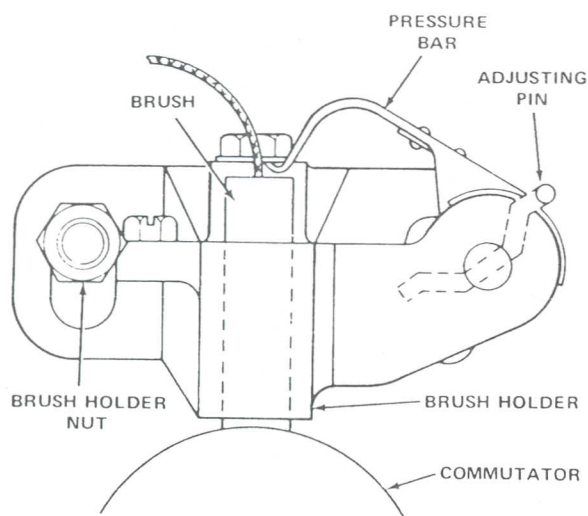

Figure 5-38. Adjustable Brush Holder, DC Motors
7. Older DC motors are equipped with an adjustable type brush holder (see Figure 5-38). The recommended brush pressure is 3-1/2 to 4 pounds of pressure per square inch of brush contact surface. If the measured pressure is not within this range, adjust the pressure by moving the adjusting pin either clockwise or counterclockwise, as required, until the recommended pressure is obtained.
a. If the motor uses adjustable brush holders (Figure 5-38), raise the pressure bar clear of the brush and lift the brush from the holder. Detach the pig tail lead.